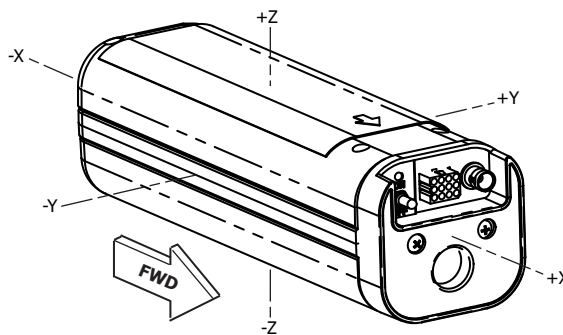

Figure 1. ELT Orthogonal Axes
- (1) The C406-1HM ELT was developed for helicopter installations and features an additional 5-axis G-Switch module, which allows the ELT to be activated in any of the six orthogonal axes. See "Figure 1. ELT Orthogonal Axes".
- (2) The C406-1HM ELT is identical to the C406-1 ELT in all other aspects.